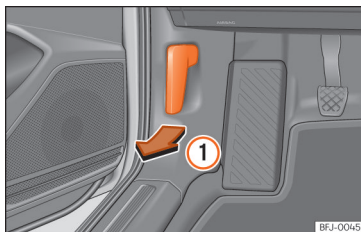

Fig. 237 Release lever in the driver's footwell area.
- Open the door and pull the lever under the dashboard »» Fig. 237 ①.